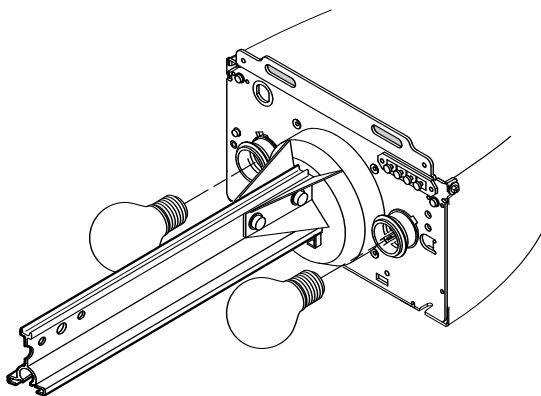

Figure 13 Install Lightbulbs
- Install two 60 Watt light bulbs (not included) into Light Sockets (**Figure 13**):